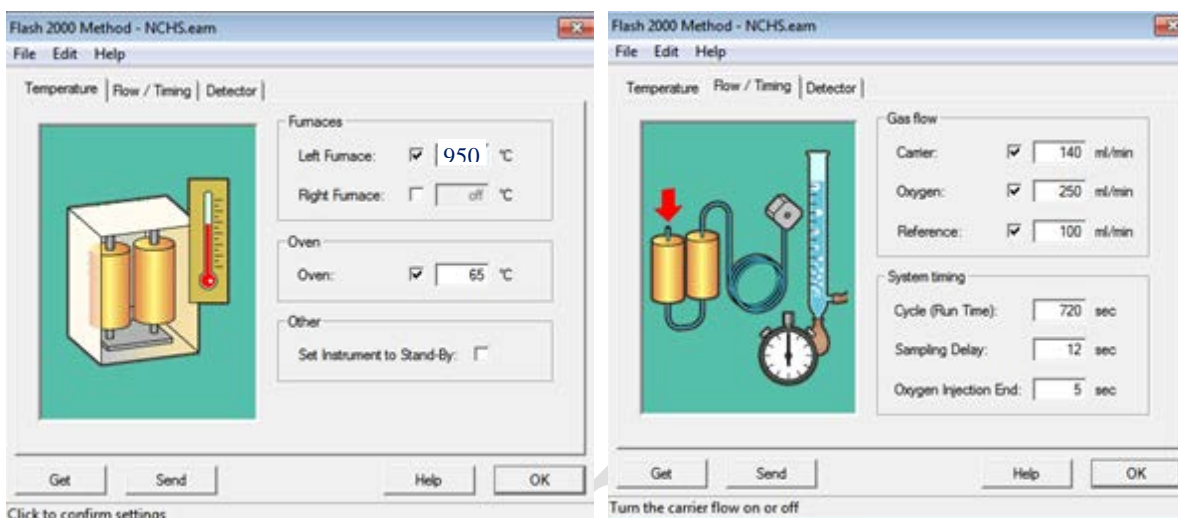

Fig.7 Turning on the furnace, oven and gas supply
3.1.10 Click , set all parameters as below. Click send and transfer the setting to instrument.(fig.7)